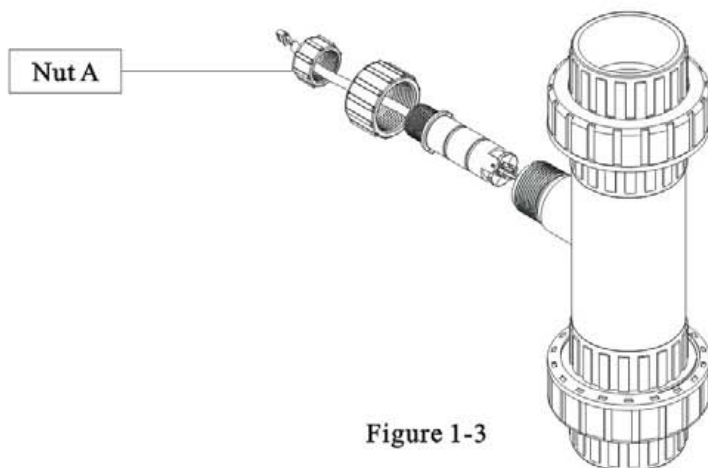

Figure 1-3
C. If the probe has impeller broken, the top bracket of probe damaged, bearing bended, after repairing but still unable to free rotation, or the wetted part has corrosion, or the installation screw thread serious damaged, it shall replace a new probe.(Refer figure 1-3)